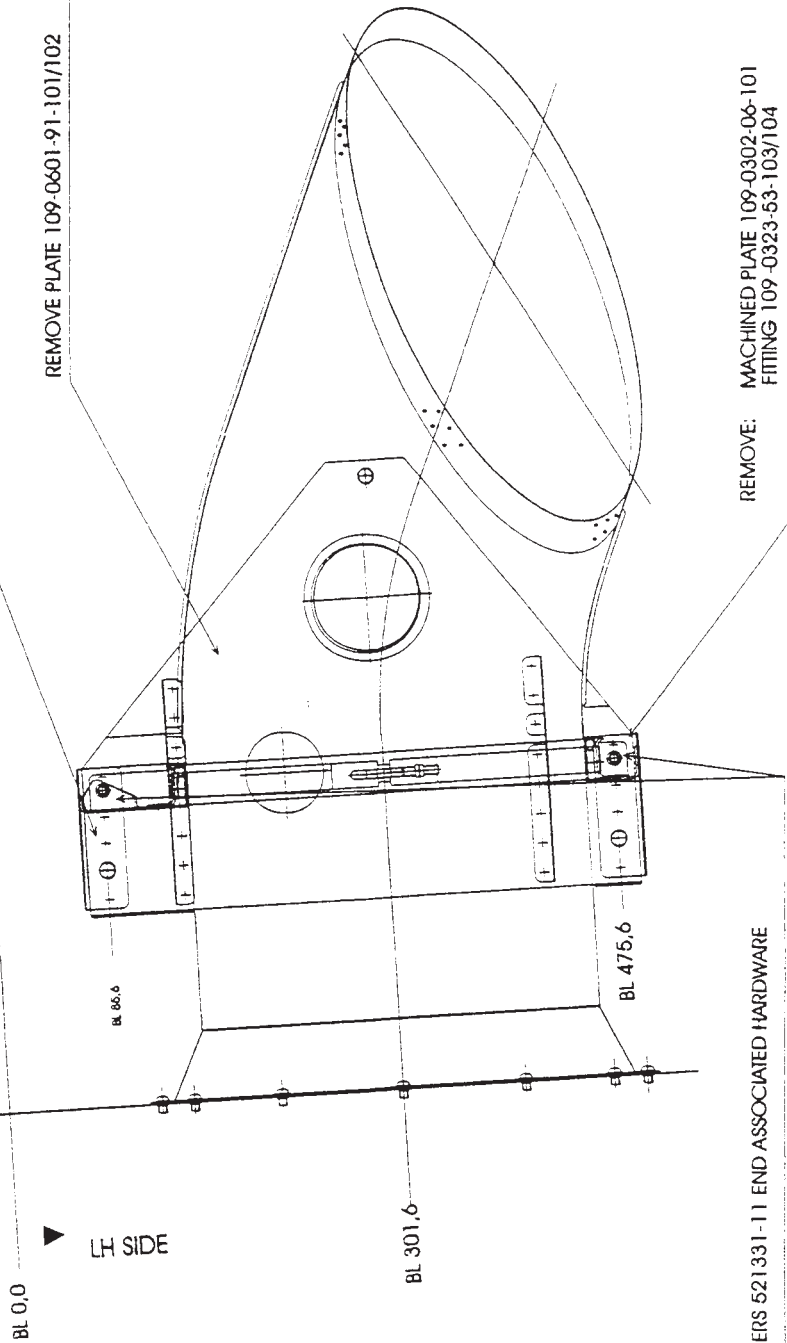

FIGURE 8
- 8.1. For helicopters not provided with plates P/N 109-0601-91-101 (LH) /-102(RH) (figure 8), rework external fittings as follows:
- 8.2. For helicopters provided with plate P/N 109-0601-91-101 (LH /-102) (RH) (figure 8), rework external fittings as follows: